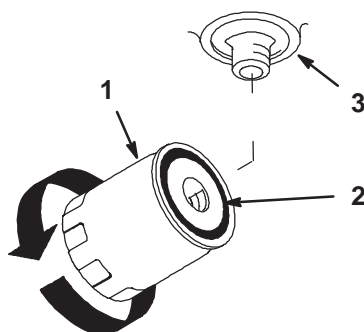

Figure 54
3. Place drain pan under filter, remove the old filter and wipe the filter adapter gasket surface clean (Fig. 54).
4. Apply a thin coat hydro fluid to the rubber gasket on the replacement filter (Fig. 54).
6. Fill the hydraulic tank with hydraulic fluid until the fluid overflows the filter and then turn the oil filter clockwise until the rubber gasket contacts the filter adapter, then tighten the filter an additional 1/2 turn (Fig. 54).